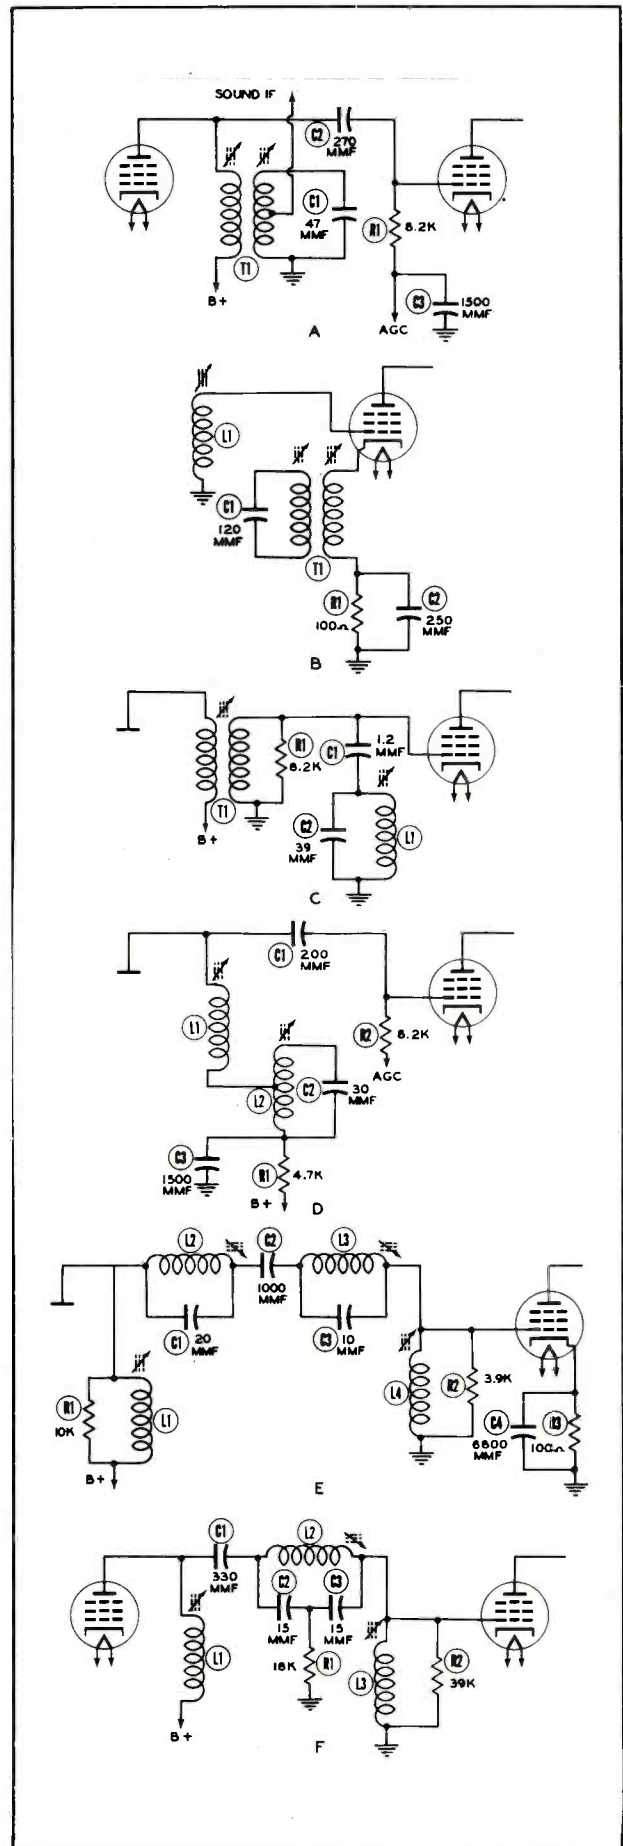

Figure 2-12. Representative Types of Trap Circuits.
Figure 2-12 shows a few of the most frequently used trap circuits. The circuit shown in (A) is an absorption type trap. The secondary, or trap winding, is positioned close to the primary so that the two windings are mutually coupled. The trap has a very high Q winding, usually around a Q of 300, and at its resonant frequency will "suck out" a very narrow band of frequencies. The energy that is required to set up parasitic oscillations in the trap winding is taken from the primary of T1, thus it is not passed on to the rest of the circuits. This trap winding is an excellent source for the sound IF signal and the circuit shown in (A) has a lead connected to a tap on the trap winding which is connected to the input of the sound IF.